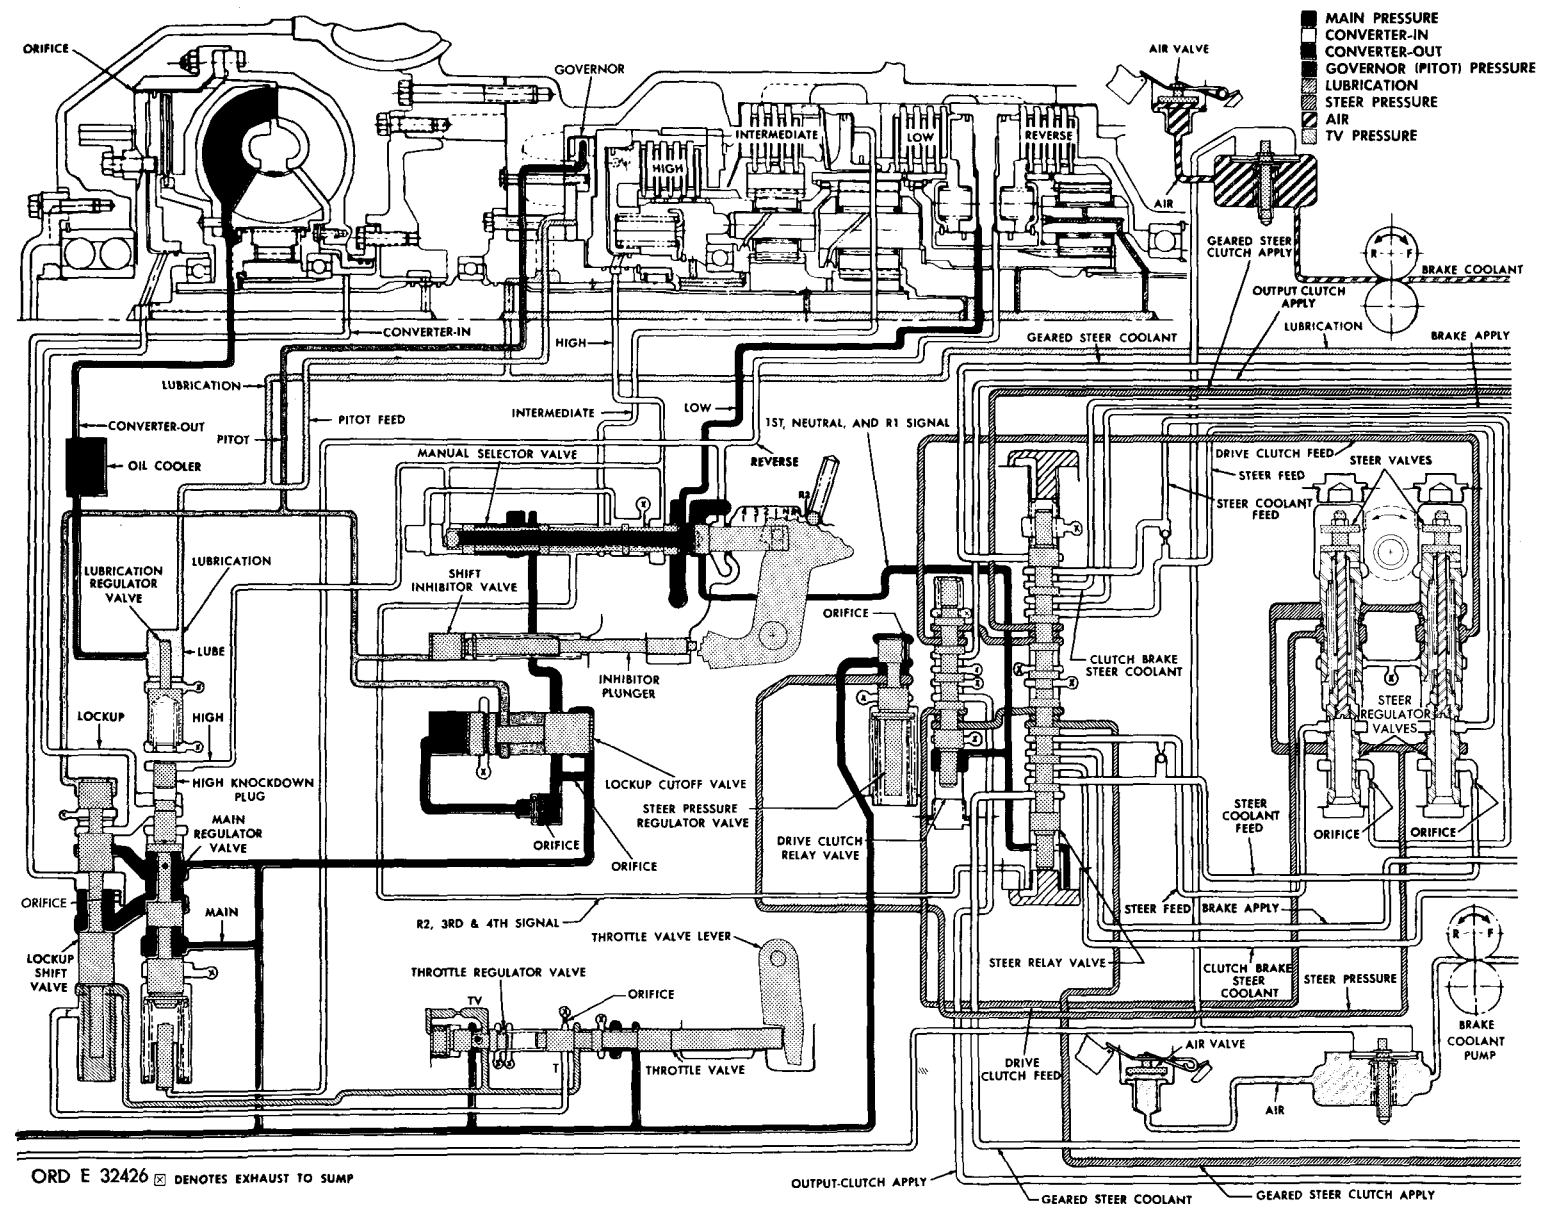

Figure 7. Hydraulic system, first gear — schematic view
FIRST GEAR (fig. 7)
d. Fig. 7 illustrates partial opening of the throttle which produces TV pressure at the throttle regulator valve. Refer to par. 30f, g., h., and i. above, for a complete explanation of the function of the throttle and throttle regulator valves.